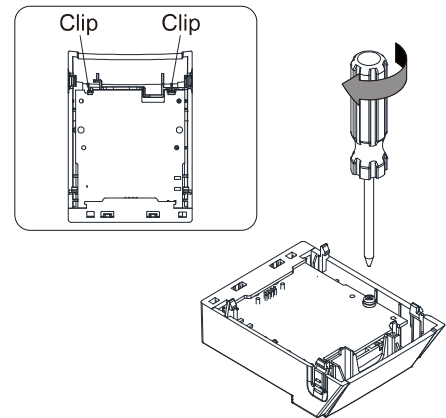

Figure 8-16
3. Make sure that two clips properly engage the option card on the backside, and then tighten the screws (suggested torque value: 4–6 kg-cm / (3.5–5.2 lb-in.) / (0.39–0.59 Nm), as shown in Figure 8-16.